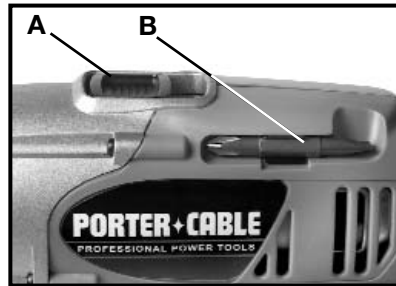

Fig. 6
To change speed ranges, release trigger switch to stop motor. Slide speed selector (A) Fig. 6 toward rear for HIGH speed or toward front for LOW speed.
Convenient storage areas (B) Fig. 6 with retaining clips for screwdriver bits are provided on each side of the tool.